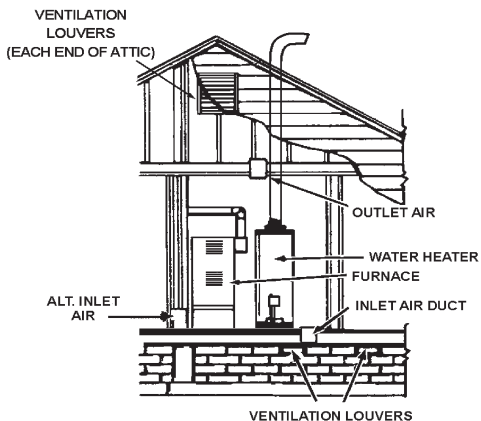

FIGURE 7.
B. ALL AIR FROM OUTDOORS: (See Figures 7, 8, 8B and 9)
1. When directly communicating with the outdoors, each opening should have a minimum free area of 1 square inch per 4,000 Btu per hour (5.5 cm²/kW) of total input rating of all equipment in the enclosure, see Figure 7.